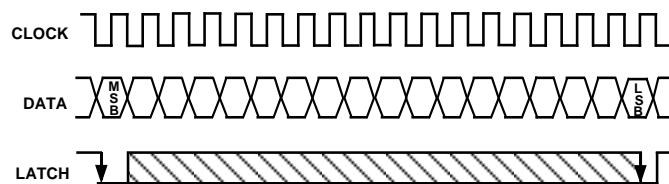
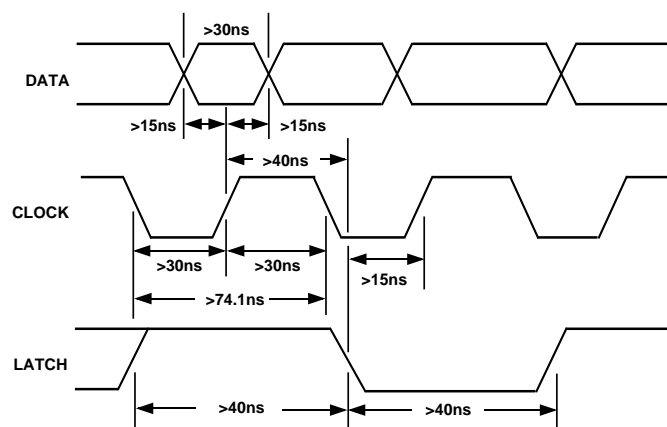

Figure 7. Signal Requirements for AD1861
Figure 8. Timing Relationships of AD1861 Input Signals
Data is transmitted to the AD1861 in a bit stream composed of 18-bit words with a serial, MSB first format. Three signals must be present to achieve proper operation. They are the Data, Clock and Latch Enable (LE) signals. Input data bits are clocked into the input register on the rising edge of the Clock signal. The LSB is clocked in on the 18th clock pulse. When all data bits are loaded, a low-going Latch Enable pulse updates the DAC input. Figure 7 illustrates the general signal requirements for data transfer to the AD1861.
Figure 8 illustrates the specific timing requirements that must be met in order for the data transfer to be accomplished properly. The input pins of the AD1861 are both TTL and 5 V CMOS compatible. The input requirements illustrated in Figures 7 and 8 are compatible with data outputs provided by popular DSP filter chips used in digital audio playback systems. The AD1861 input clock can run at a 13.5 MHz rate. This clock rate will allow data transfer rates for 2 \times , 4 \times or 8 \times or 16 \times oversampling reconstructions.